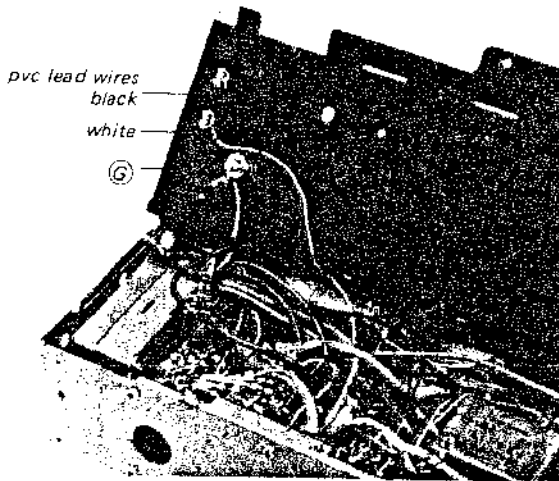

Fig. 2-3
5. Remove the telescopic-antenna holding nut marked (G) in Fig. 2-3.
6. Unsolder the two pvc lead wires at the a-m external antenna terminals as shown in Fig. 2-3.